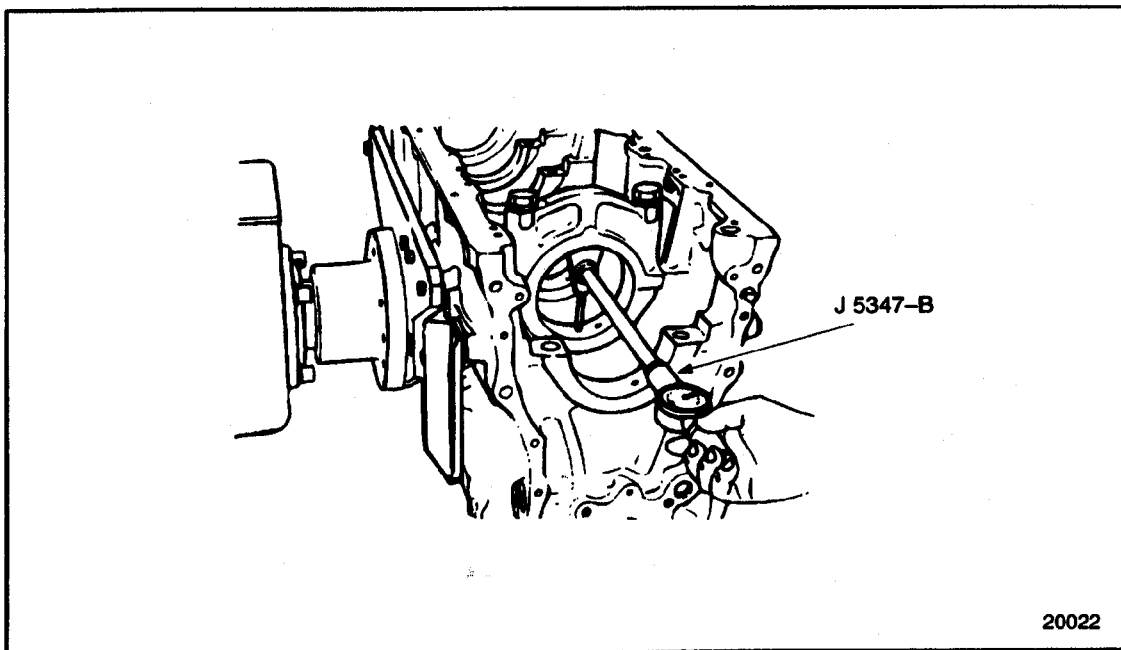

Figure 1-16 Gaging Main Bearing Bores
3. Measure the main bearing bores using dial bore gage which has a dial indicator calibrated in 0.0001 in. increments. Set the cylinder bore gage on zero in master setting fixture. See Figure 1-16.